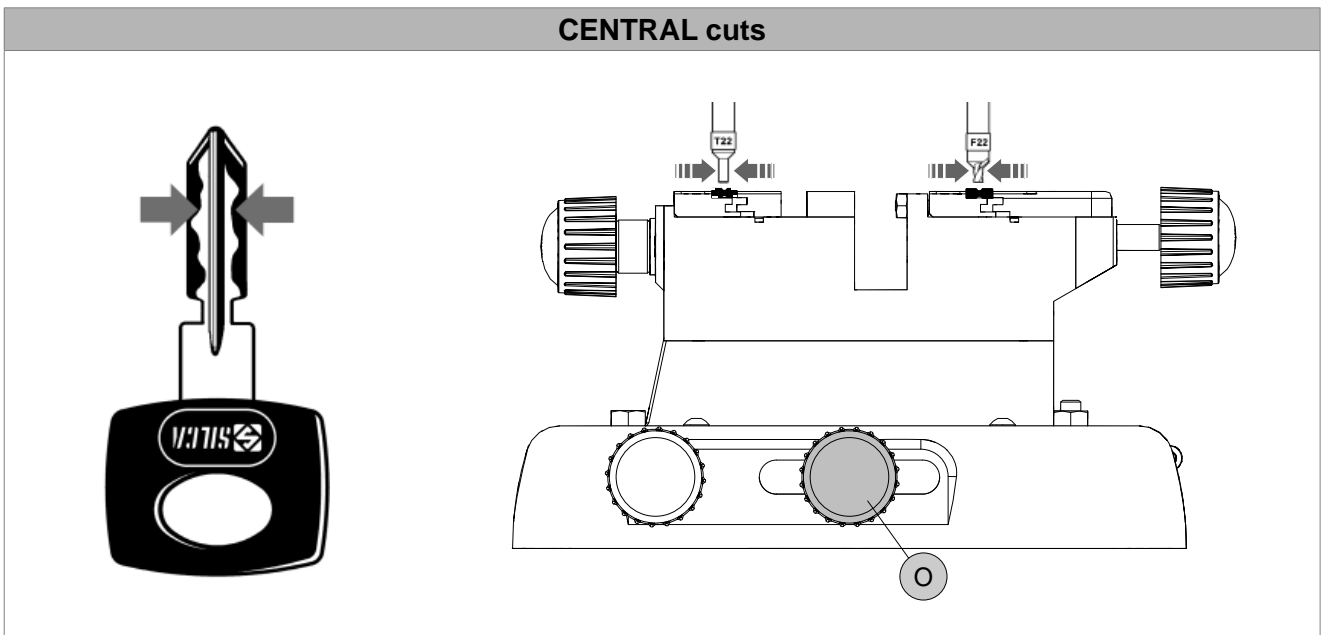
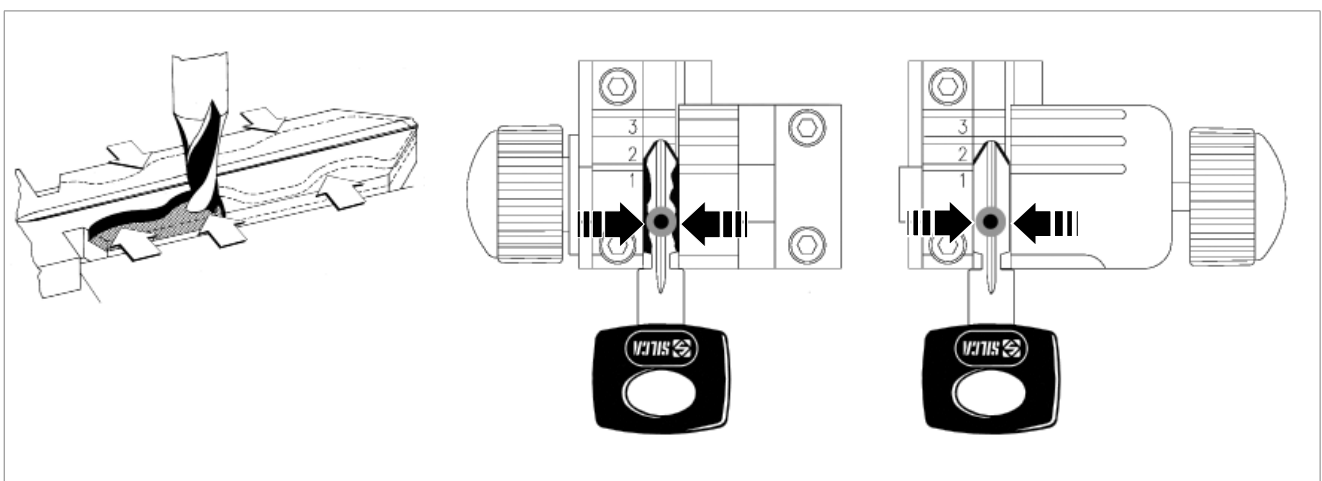
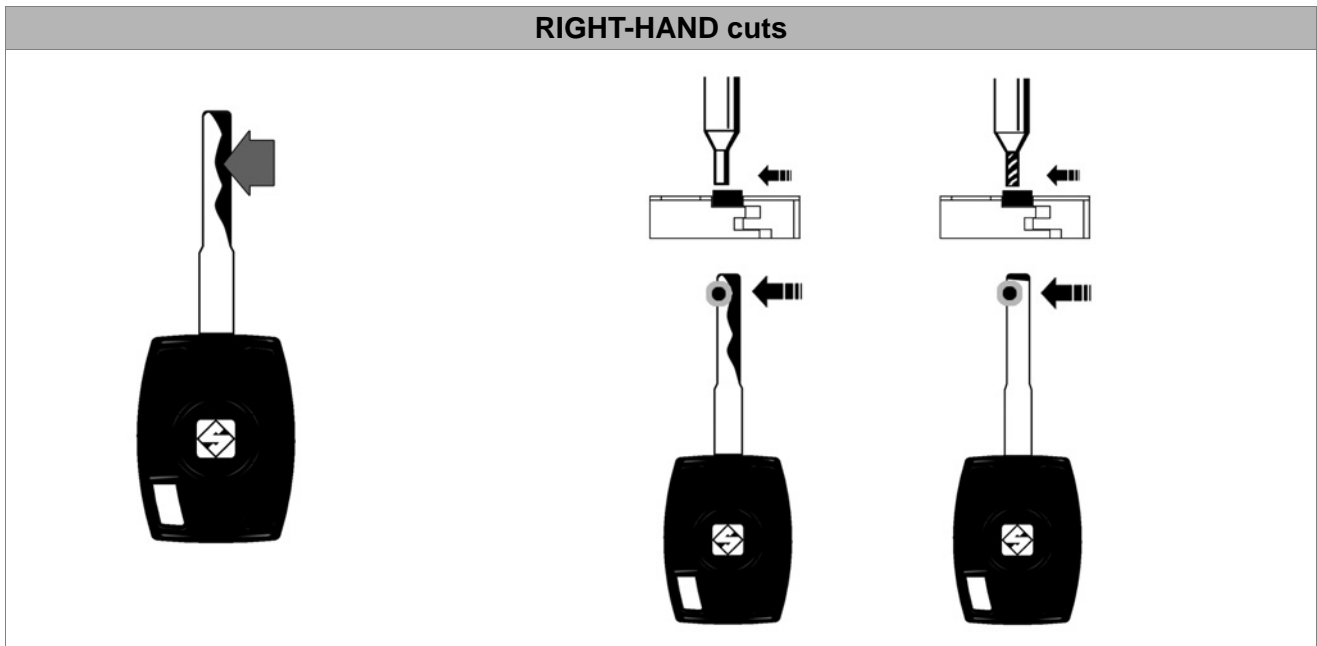
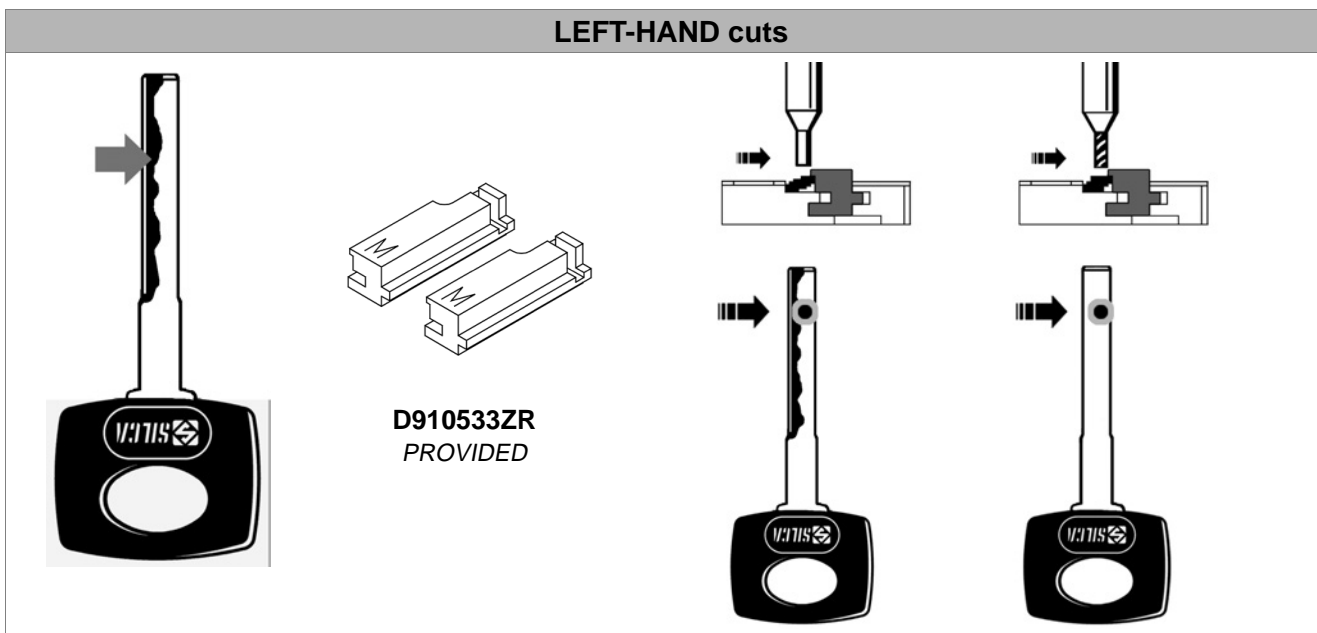

Fig. 20
Fig. 21
Fig. 22
Fig. 23
The spring function for laser keys is activated by means of the knob (O) (Fig. 20) and causes pressure on the tool sides along the cutting track when making cuts; this method allows the operator to trace cuts manually without pressing crosswise with the lever (C). Fig. 21, Fig. 22 and Fig. 23 illustrate the three examples of use of the spring system:
With the motor power switch (Q) off, loosen the knob (O) slightly (Fig. 20).
Take the tools above the keys centred over the key stem (Fig. 21).
Take the tools above the keys to the left of the key stem (Fig. 22).
Take the tools above the keys to the right of the key stem (Fig. 23).